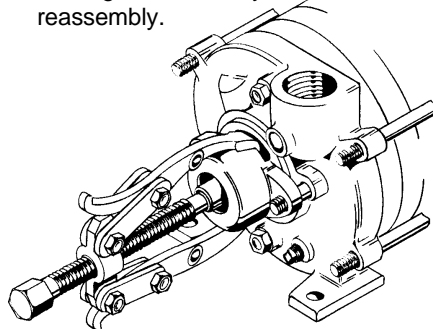

Figure 4-1
- 3. The bearing arm (#3) may now be removed. A gear puller may be necessary.(refer to figure 4-1) The outboard ball bearing (#24) should now be removed. A gear puller will have to be used for this operation. If the bearing can be removed too easily, a worn bearing surface may be indicated. Replace the shaft and bearing as necessary before reassembly.